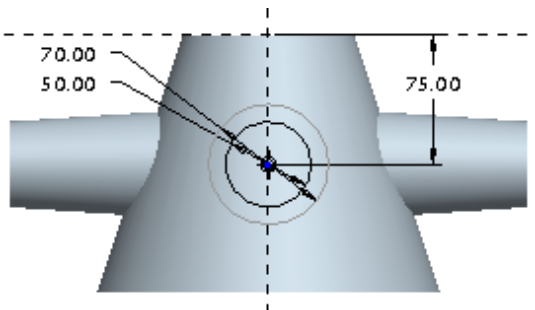

Figure 13-77 Sketch of the fourth blend feature
- e. Create the fourth feature which is also a blend feature, refer to Figures 13-77 and 13-78.
7. Sketch the first circle of diameter 50, dimension it. Toggle the sketch and then draw the second circle of diameter 70 as shown in Figure 13-77.